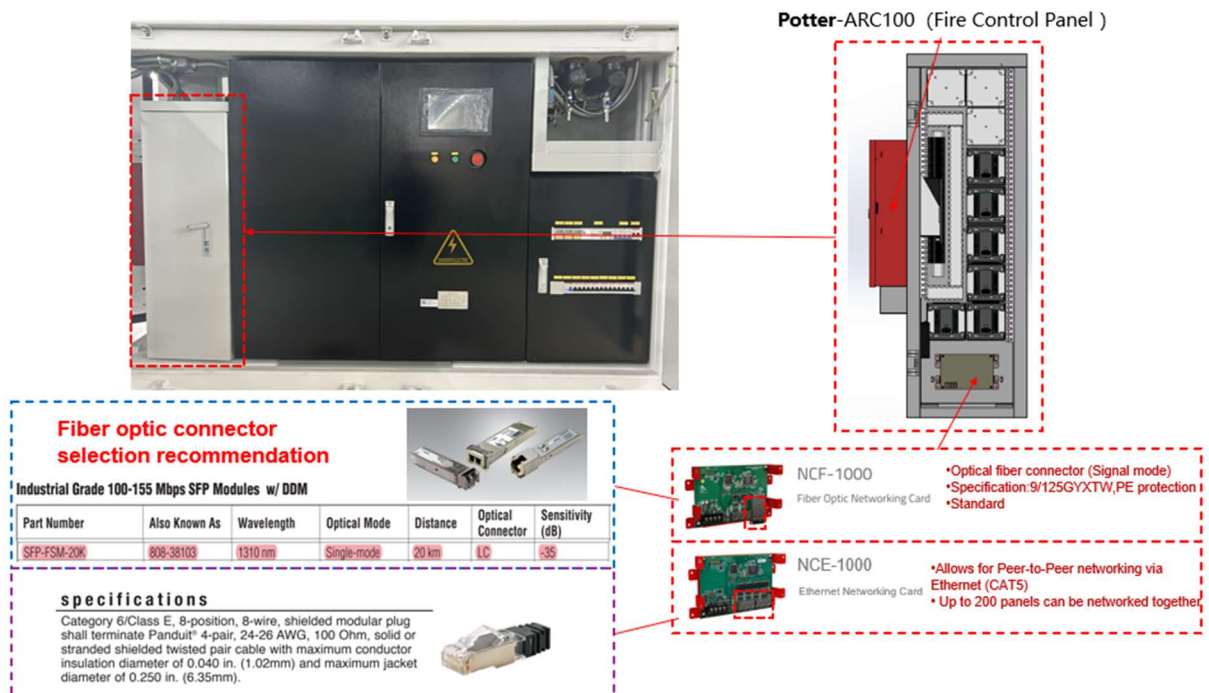
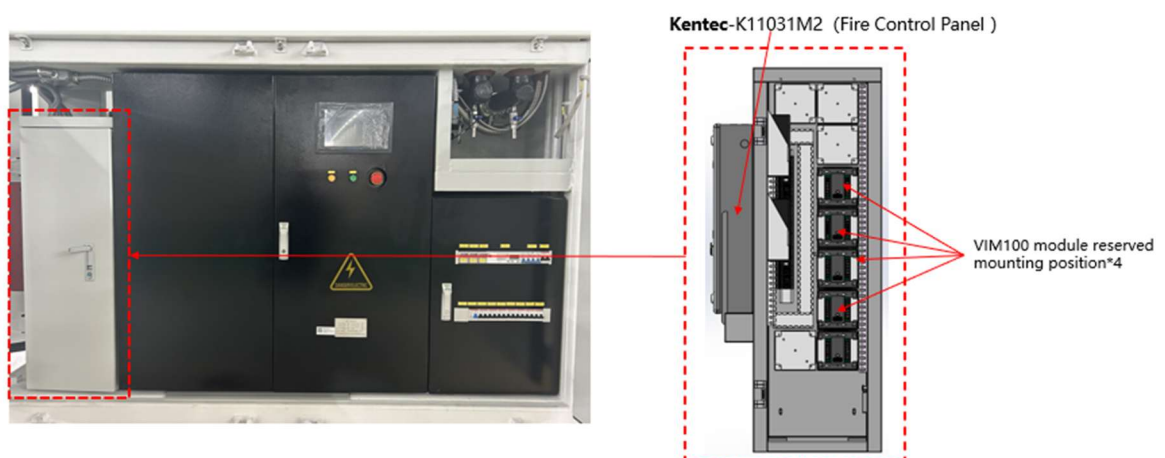

Figure 17-1: **Potter** Fire Control Panel Communication Wiring Position
Figure 17-2: **Kentec** Fire Control Panel Communication Wiring Position
- ✓ Step 1: According to the different communication methods of the fire alarm system, different communication cables and connectors are configured, which can be referred to Figure 17-1 、 Figure 17-2、 Figure 17-3 and Figure 17-4.